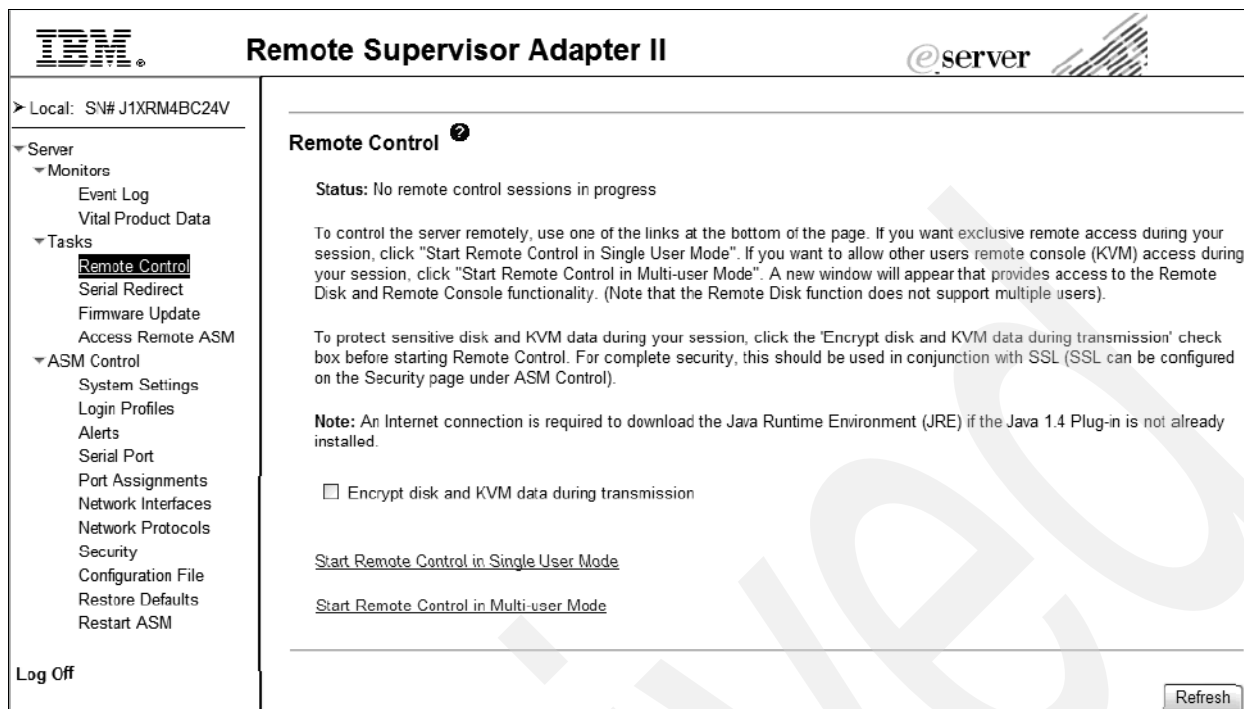

Figure 5-10 Remote Supervisor Adapter II: Remote Control
2. Type the following default user ID and password. When you type the letters for the default user ID and password, ensure that you type all the letters in uppercase, and ensure that you use the number zero (0) in place of the letter “O” in PASSWORD.
4. From the Remote Supervisor Adapter II window, click **Tasks**, then **Remote Control**. See Figure 5-10.
1. From the Remote Supervisor Adapter II window as shown Figure 5-10 on page 80, select **Firmware Update** from the left menu.